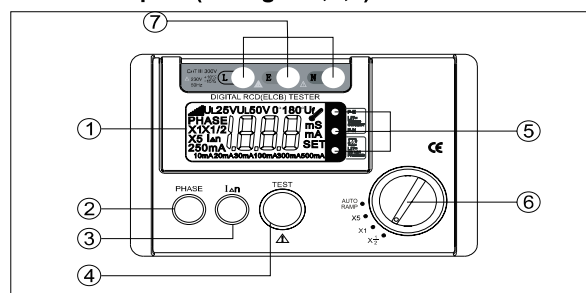

Figure 1
4. Tester Description (See Figure 1, 2, 3)